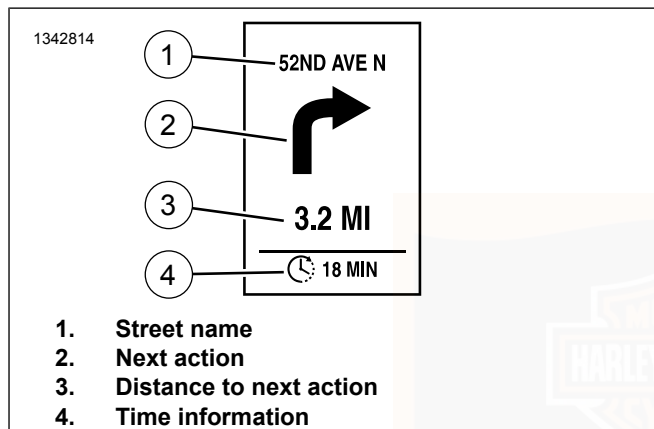

Figure 40. Navigation Widget
See Figure 40. The navigation widget displays turn by turn navigation information that has been entered into the connected device using the HD-Connect app. This information includes street name (1), Next action icon (2), distance to next action (3) and time information (4) (either arrival time or trip duration).